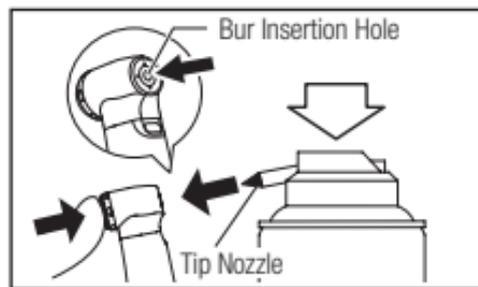

Fig. 17
- 2) Shake the can three or four times, then gently press in the push button to directly spray into the bur insertion hole (Fig. 17).